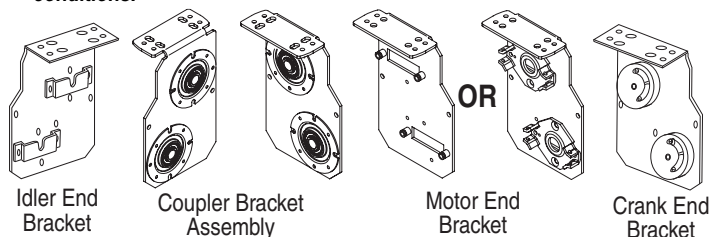

Figure 3
- ① Before mounting shades, verify measurements on the card provided with the shade, and ensure the brackets are installed at the correct width.
- ② Measure and mark wall, jamb or ceiling for placement of mounting brackets. Mark a level line across all windows to ensure a level installation. Mark the outer edges of the operator- and idler-end brackets, and the center locations of the coupler brackets. Locations are determined by:
- ④ Mount the operator-end bracket assembly (see Fig. 3 for bracket types). Make sure the outside edge is aligned with the marked location. **The installer is responsible for selecting mounting hardware appropriate for site conditions.**
- ② Before mounting shades, verify measurements on the card provided with the shade, and ensure the brackets are installed at the correct width.
- ③ Measure and mark headbox for placement of mounting brackets. Mark the outer edges of the operator- and idler-end brackets, and the center locations of the coupler brackets. Locations are determined by:
- ④ Mount the bracket assemblies (see Fig. 3, page 1 for bracket types). Make sure the outside edge is aligned with the marked location. Install by placing brackets in the headbox at an angle, then twisting the brackets into place (following the natural angle of the bracket—see Fig. 8. Lock in place with set-screws.